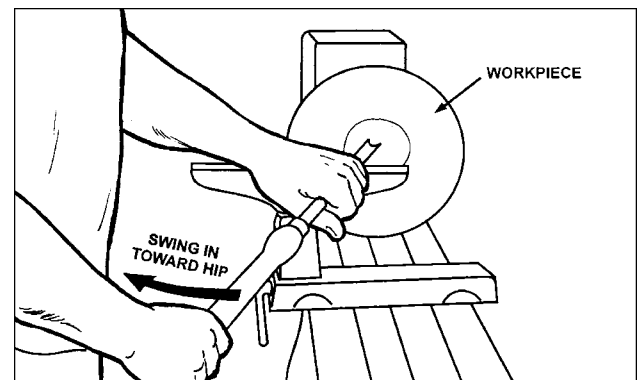

Fig. 22
5. Place 1/2" bowl gouge on tool rest at center of the workpiece with the flute facing top of bowl. The tool handle should be level and pointed toward four o'clock, see Figure 22.
6. Use left hand to control cutting edge of gouge, while right hand swings tool handle around toward your body, see Figure 22. The flute should start out facing top of workpiece, and rotate upward as it moves deeper into the bowl to maintain a clean even curve. As tool goes deeper into bowl, progressively work out toward rim. It may be necessary to turn the tool rest into the work piece, as you get deeper into the bowl.